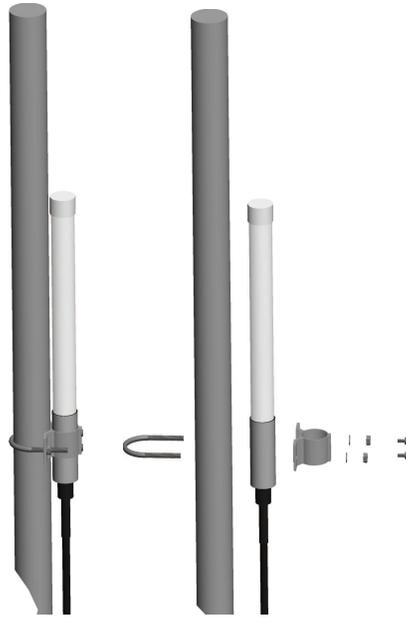

Figure 7: Pole mount
3. Connect the U-bracket as shown in Figure 7 to secure antenna to the pole.